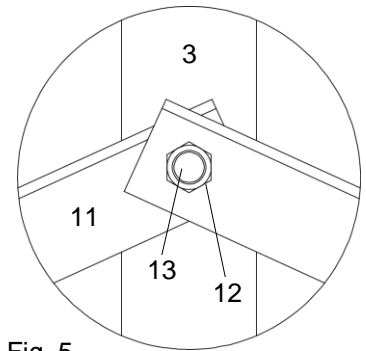

Fig. 5
- Fix the alu struts (11) in the corresponding drillings of the supporting frame using the screws (13) and nuts (12) (Fig. 5). The required drillings of the alu strut have to be made on site. The first alu strut has to be mounted from the lower drilling of the first supporting frame to the upper drilling of the second supporting frame. The second alu strut has to be mounted from top to bottom.